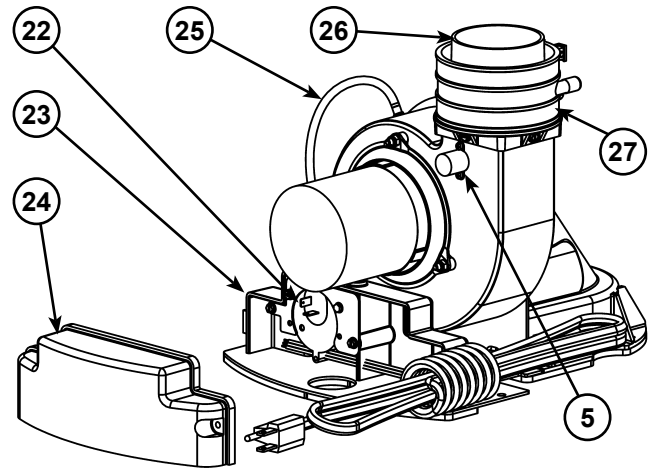

Figure 9
5. Limit Switch (see Figure 9)
21. Blower with Power Cord (see Figure 9)
22. Air Switch (inside box) (see Figure 9)
23. Junction Box (see Figure 9)
25. Air Tubing (see Figure 9)